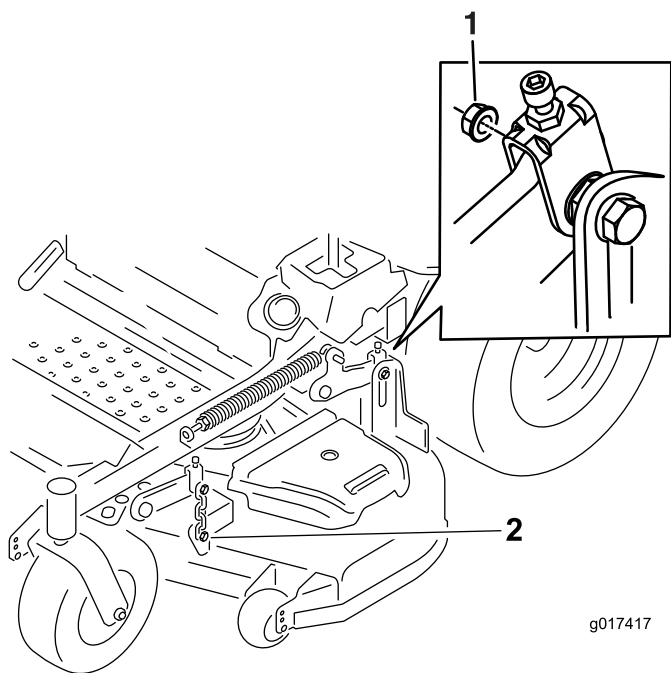

Figure 83
7. Remove and retain the hardware on both sides of the deck as shown in Figure 83.